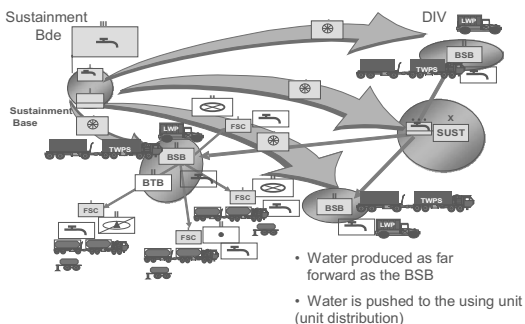

Figure 1 – Modular Water Distribution within Corps AOR
c. Doctrinal notes (Ref Figure 1)
- (1) Water is provided through supply point distribution and transported by units via the 900 gallon hippo trailer. In an arid environment, where insufficient water sources are available, any additional water is provided by corps.
- (2) Sustainment Bde medium truck companies may augment Water Purification & Distribution Companies in distributing water using 5,000 gallon semi trailers, or using 4,750 or 3,000 gallon Semi Mobile Fabric Tanks (SMFT) on semi trailers.
- (3) Sustainment Bdes/CSSBs use SMFTs to haul water to Support Brigades without operational water purification sources to Spt Bdes/BCTs who have shut down their ROWPUs as a result of tactical operations. FAWPSS are used for remote locations. FAWPSS and full 500 gallon drums can be loaded on vehicles, towed short distances, or sling loaded by aircraft.